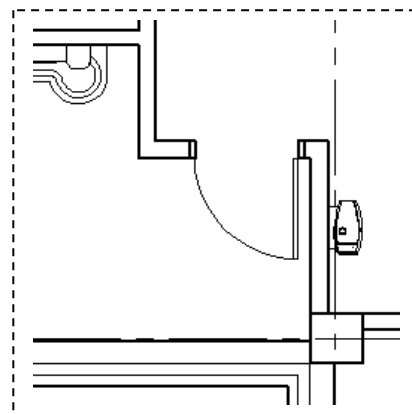

FIGURE 4-1.11 Drinking fountain centered on wall
18. Add a **drinking fountain** just to the east of the Men's toilet room, and centered on the wall, as shown in Figure 4-1.11.